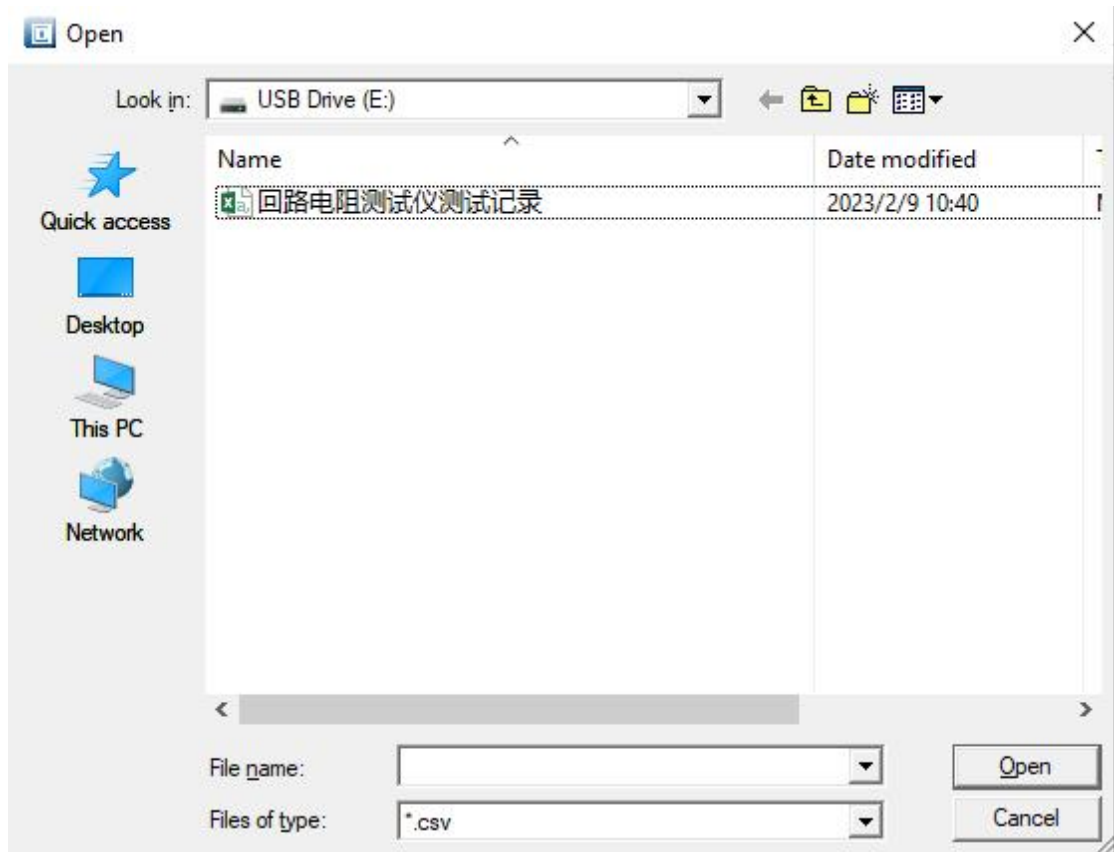
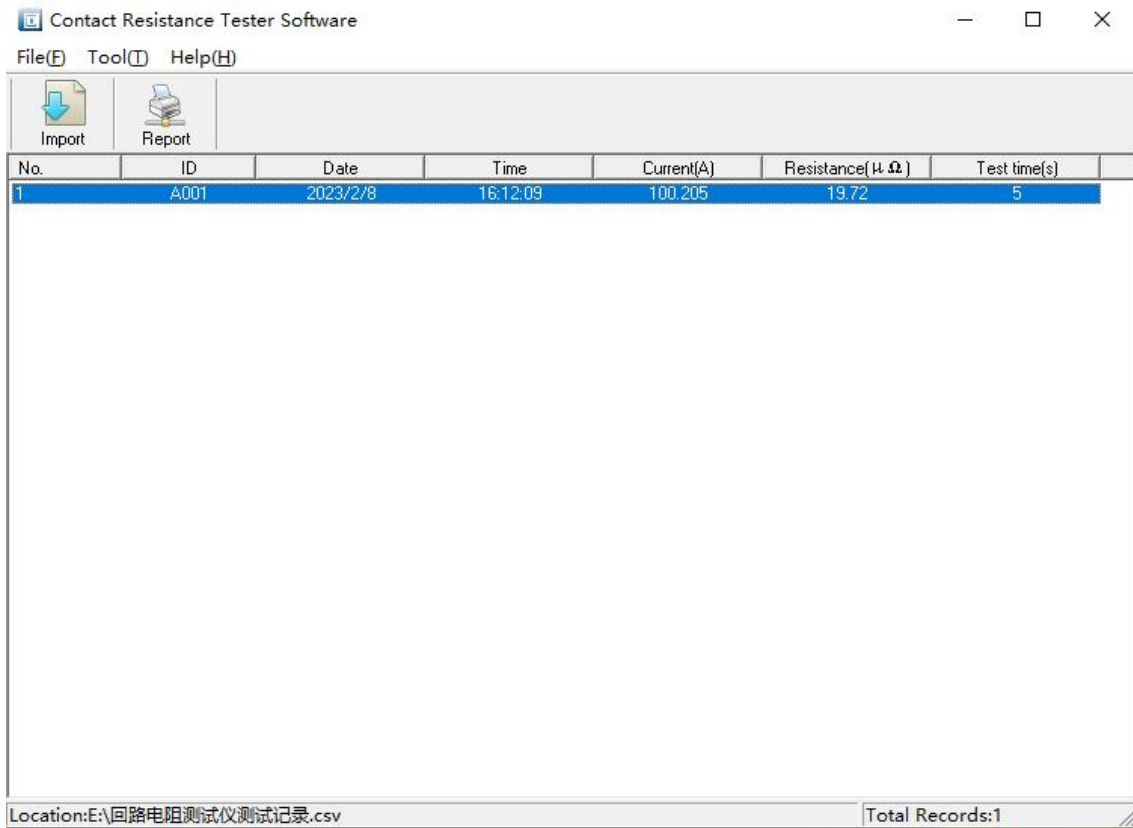

Figure 25 Importing data
Figure 26 Successful import
(2) Import data: Insert the USB flash drive, click the "Import Data" button, click the file name to be imported, as shown in Figure 25, click Open to enter the import success interface, as shown in Figure 26.
3) Generate Report: In Figure 26, select one of the records and click the "Generate Report" button to generate a report in word format for that record, as shown in Figure 27.